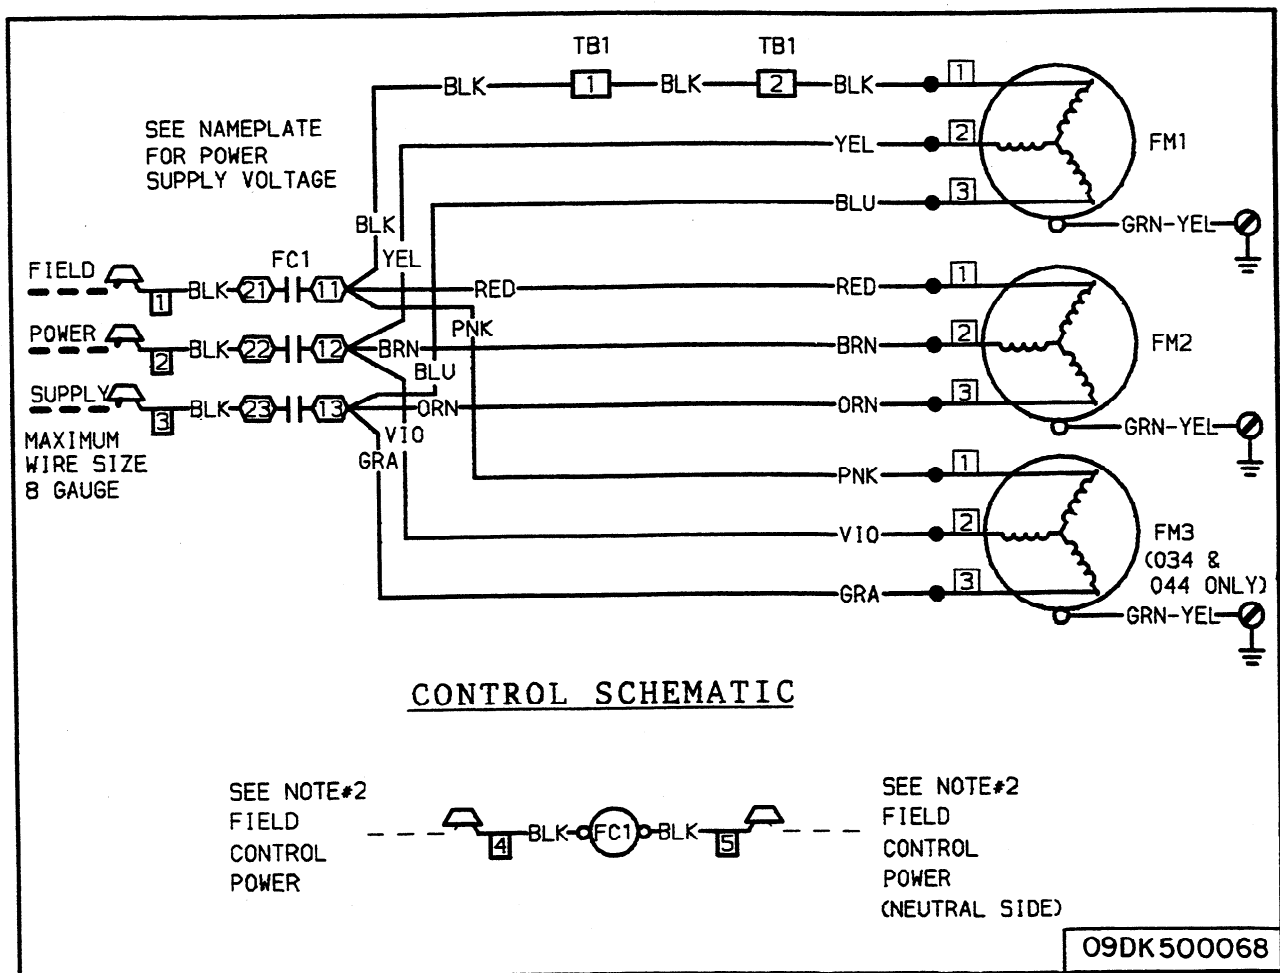

Fig. 1 – Standard Unit Power and Control Schematic
8. Disconnect black wire connecting FM1 junction box to TB1 terminal 2 (575-v only). See Fig. 1. Disconnect yellow wire from FC1 terminal 12. Disconnect blue wire from FC1 terminal 13.